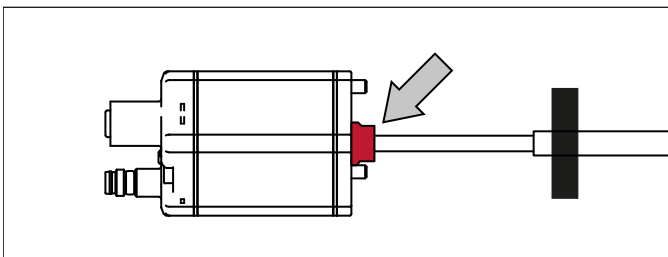

Fig. 32: Remove sealing before inserting into sensor rod HD/HL/HP
- The base unit is mounted by means of three screws. It is the only part that needs to be replaced if servicing is required, i.e. the hydraulic circuit remains closed. Before inserting the base unit into the sensor rod HD/HL/HP, remove the red sealing at the transition between the sensor electronics housing and the flexible sensor rod (Fig. 32). For more information see chapter “4.10.1 Replacement of base unit on the RH5/RF5/RFV model” on page 40.